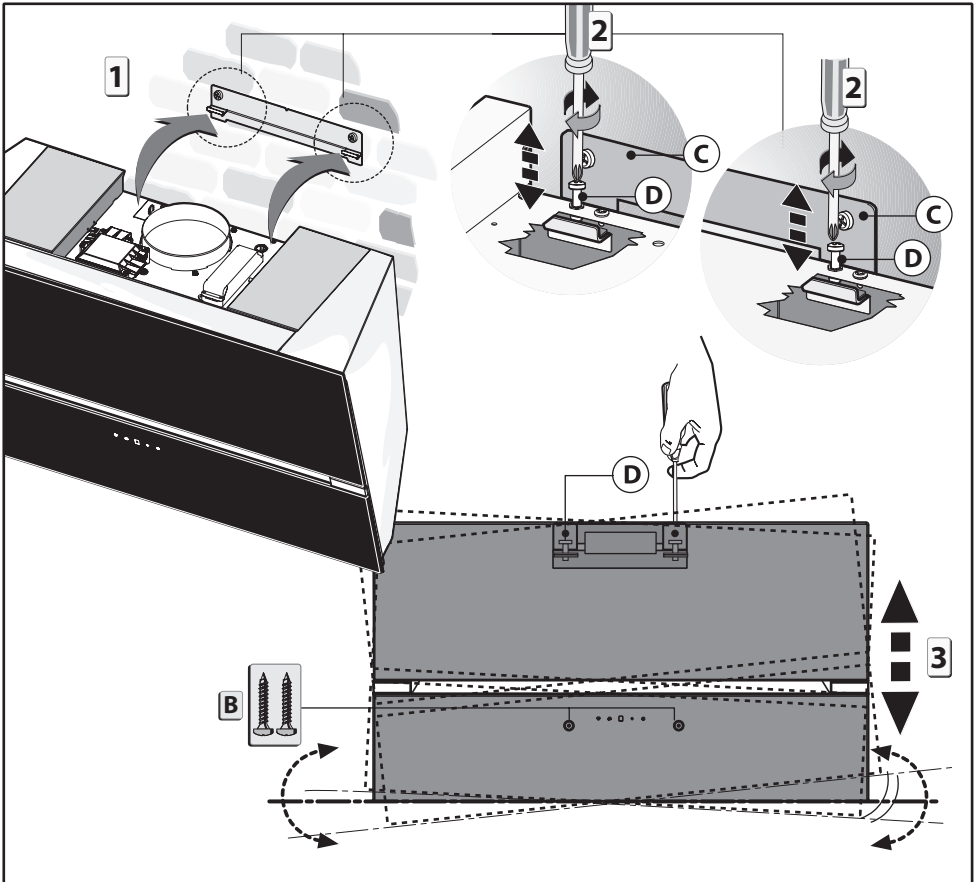

Fig.4
- Make sure the 2 levelling screws **D** are not tight (fig. 4).
- Take the appliance and hang it on bracket **C** figure 4 - phase 1.
- Align the appliance horizontally using the two levelling screws **D** figure 4 - phase 2.
- Once the adjustment has been made, fasten the hood permanently using the screws **B** figure 4- phase 3.